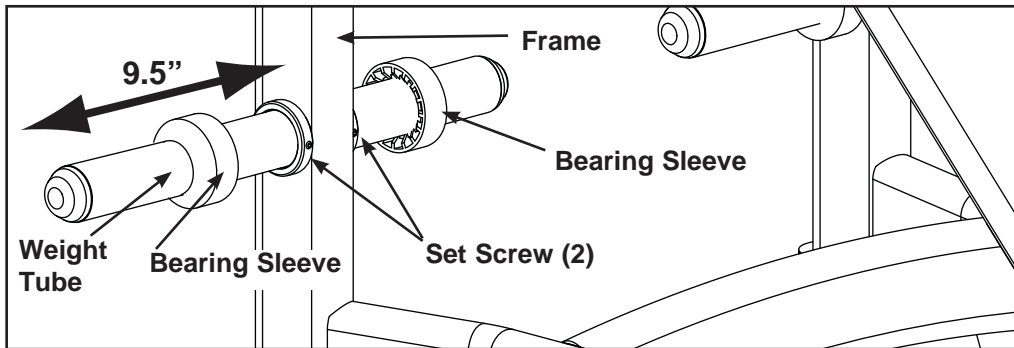

Figure 5
- C. Verify outside length of weight tube measures 9.5 inches. See Figure 5.
- D. Using a 1/8" Allen wrench secure tube in place with set screws located on both sides of frame. See Figure 5.